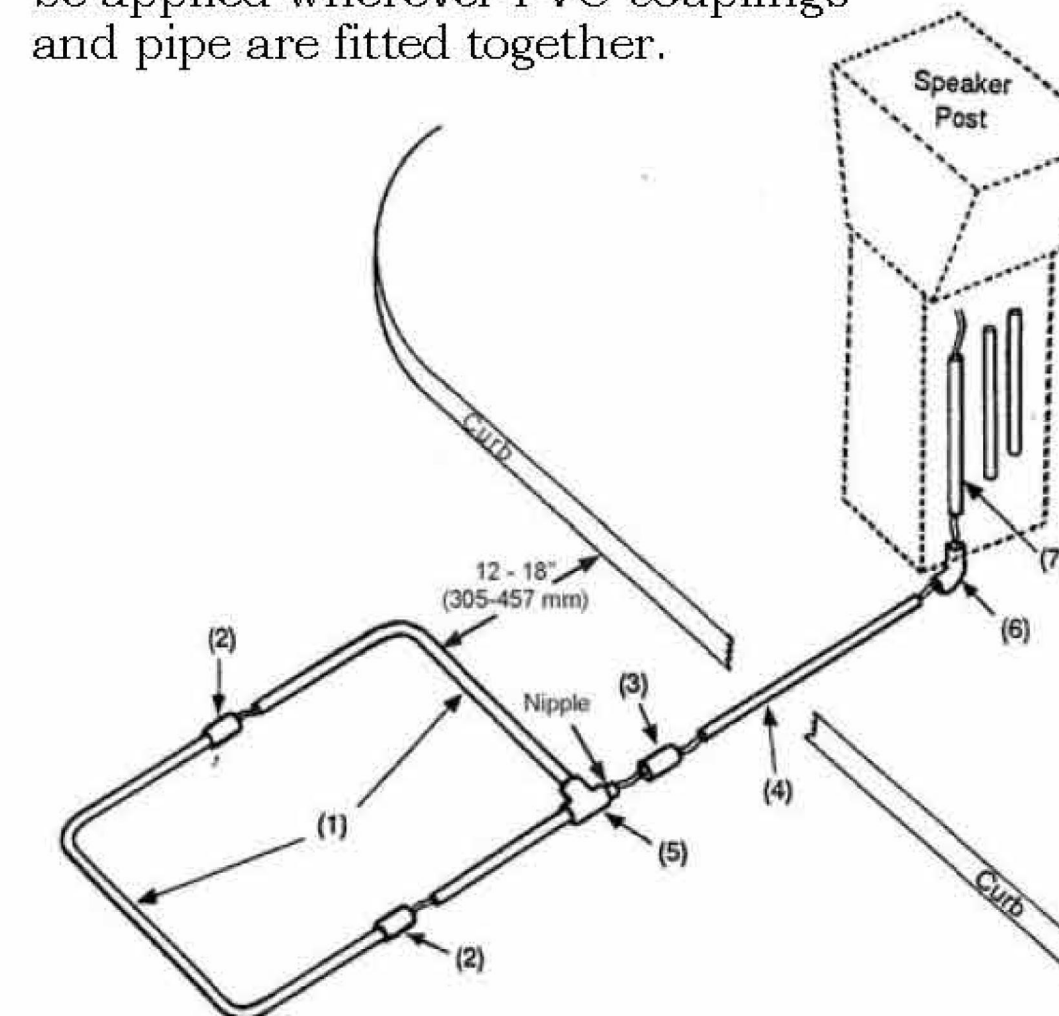
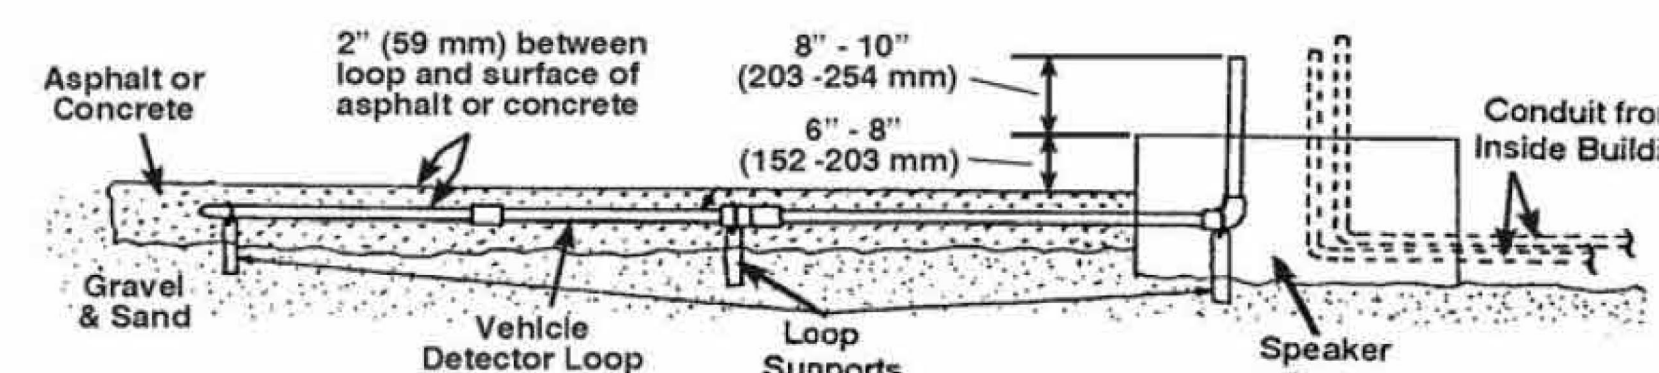

Figure 2. Loop layout and connections
Figure 3. Side view of loop in asphalt or concrete
- Remove the elbow coupling, Figure 2 (6), from the cable. The cable was threaded through the coupling for shipping only.
- Measure the distance from the curb to the outlet of the conduit that comes from the building into the speaker post or menu board to determine if the enclosed 3 foot (.91 meter) PVC loop extension reaches from the loop to the conduit as shown in Figure 2 (4). If it does, proceed to the next paragraph. If not, substitute a longer piece of 1/2 inch (12.7 mm) PVC pipe (not provided). Measure and cut the pipe to reach from the loop to the point where it must exit the ground into the speaker post.
- Flatten the loop (folded for shipping) as shown in Figure 2 (1). Fit the pipe securely into the couplings (2). Lay the loop flat in the drive-thru lane and position it as shown in Figure 2. Elevate the loop on supports that are anchored to the ground, as shown in Figure 3. Level the loop so it will be 2 inches (51 mm) or less from the paved surface when the concrete is poured. Fasten the loop to the supports with wire, so it will not float when the concrete is poured.
- Pull the loop wires through the PVC loop extension (4). Slide one end of the sleeve coupling (3) over the nipple on the corner fitting of the loop (5), and slide the end of the loop extension into the other end of the sleeve coupling.
- Pull the loop wires through the elbow coupling (6) and the remaining 2 foot (.61 meter) piece of PVC (7). Slide the two ends (of 4 & 7) into the coupling (6), positioning the piece of PVC (7) so it points upward, out of the ground. Be certain it is next to and parallel to the outlets of the conduit coming into the speaker post from the building.